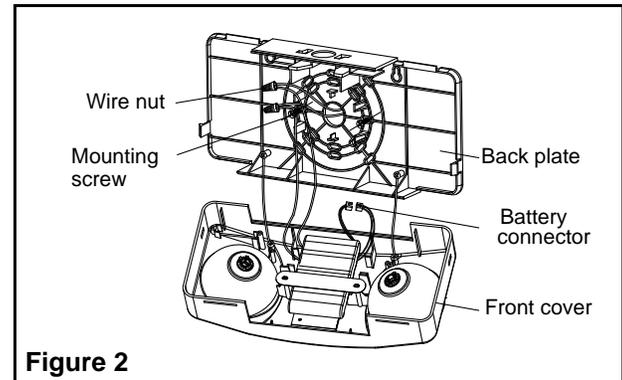

Figure 2
Wall and Ceiling Mount (see figure 2 & 3)
5. Connect battery connector (see figure 2).